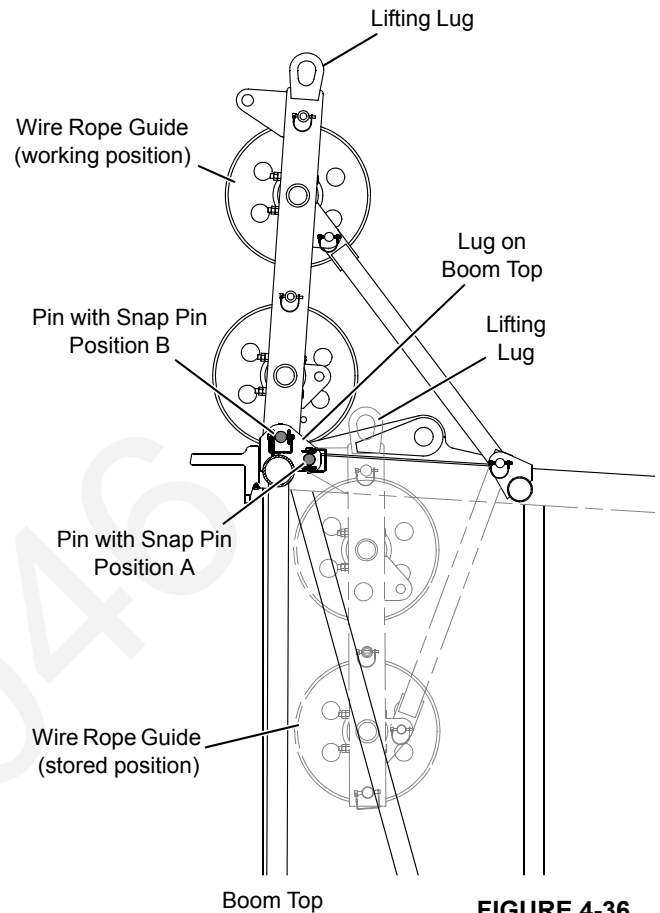

FIGURE 4-36
See Figure 4-36 for the following procedure.
- Store boom top wire rope guide as shown in Figure 4-36.